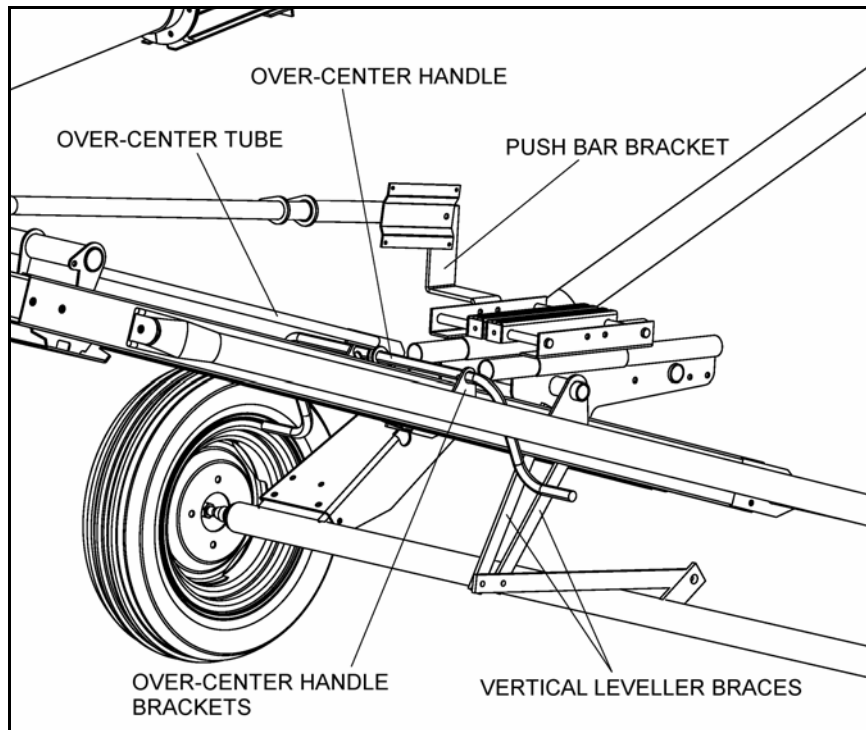

Figure 3.39
1. Remove push bar bracket, over-center tube, over-center handle, over-center handle brackets, and vertical leveller braces (see Figure 3.39).